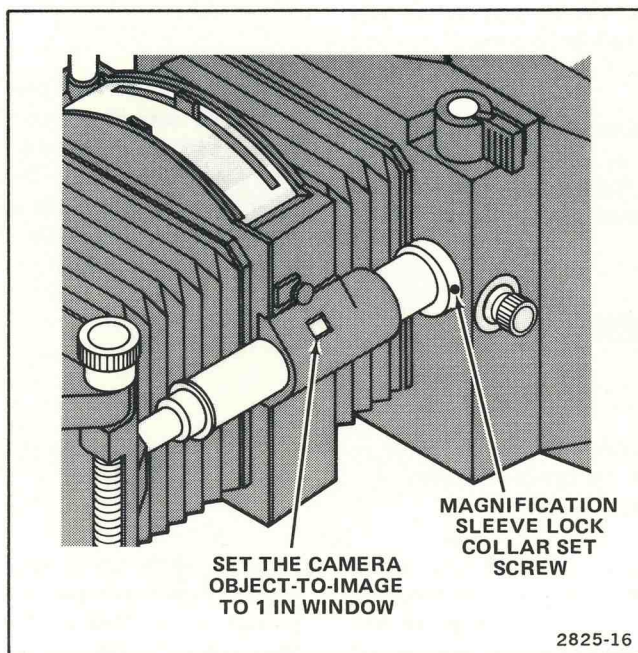

Figure 3-1. Sleeve lock collar location.
5. If the ratio is not 1:1, loosen the magnification sleeve lock collar set screw by using a 0.050-inch hexagonal wrench. Slowly slide the camera either toward the instrument to increase the image size or away from the instrument to decrease image size (see Figure 3-1).